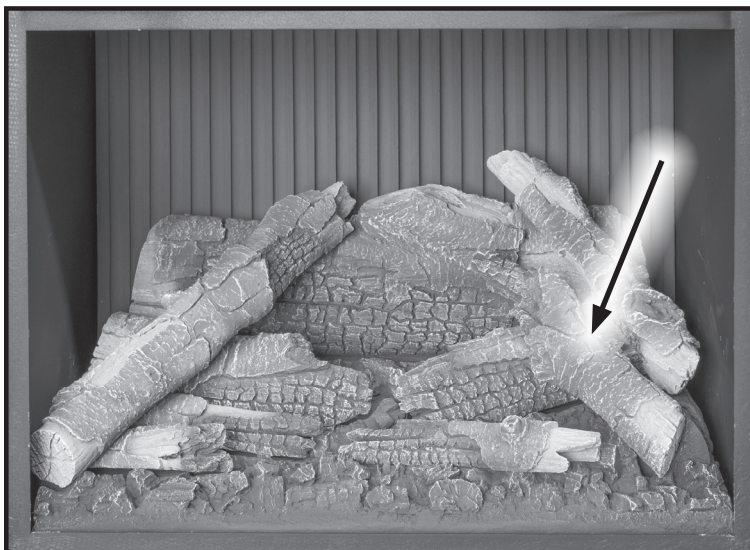

Figure 52. Final Top Log.
7. Install the last log on top, on the right side, as shown in Figure 52. Note the locating notch on the bottom side that matches the half round on top of the large bottom log sitting on the ember bed.